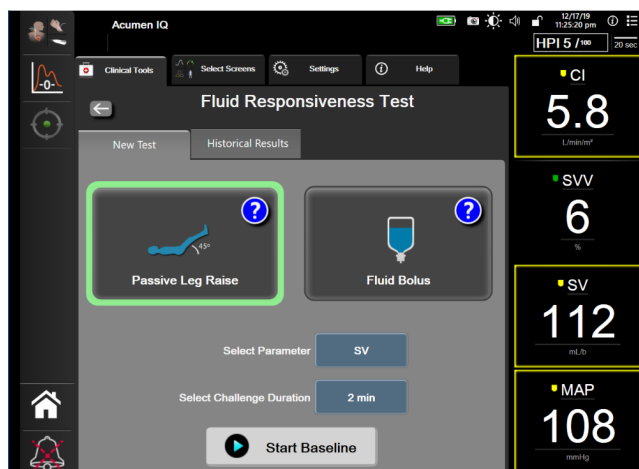

Figure 14-13: Fluid Responsiveness Test – New Test Screen
- On the **New Test** tab (see Figure 14-13 on page 267), touch the desired test type: **Passive Leg Raise** or **Fluid Bolus**.